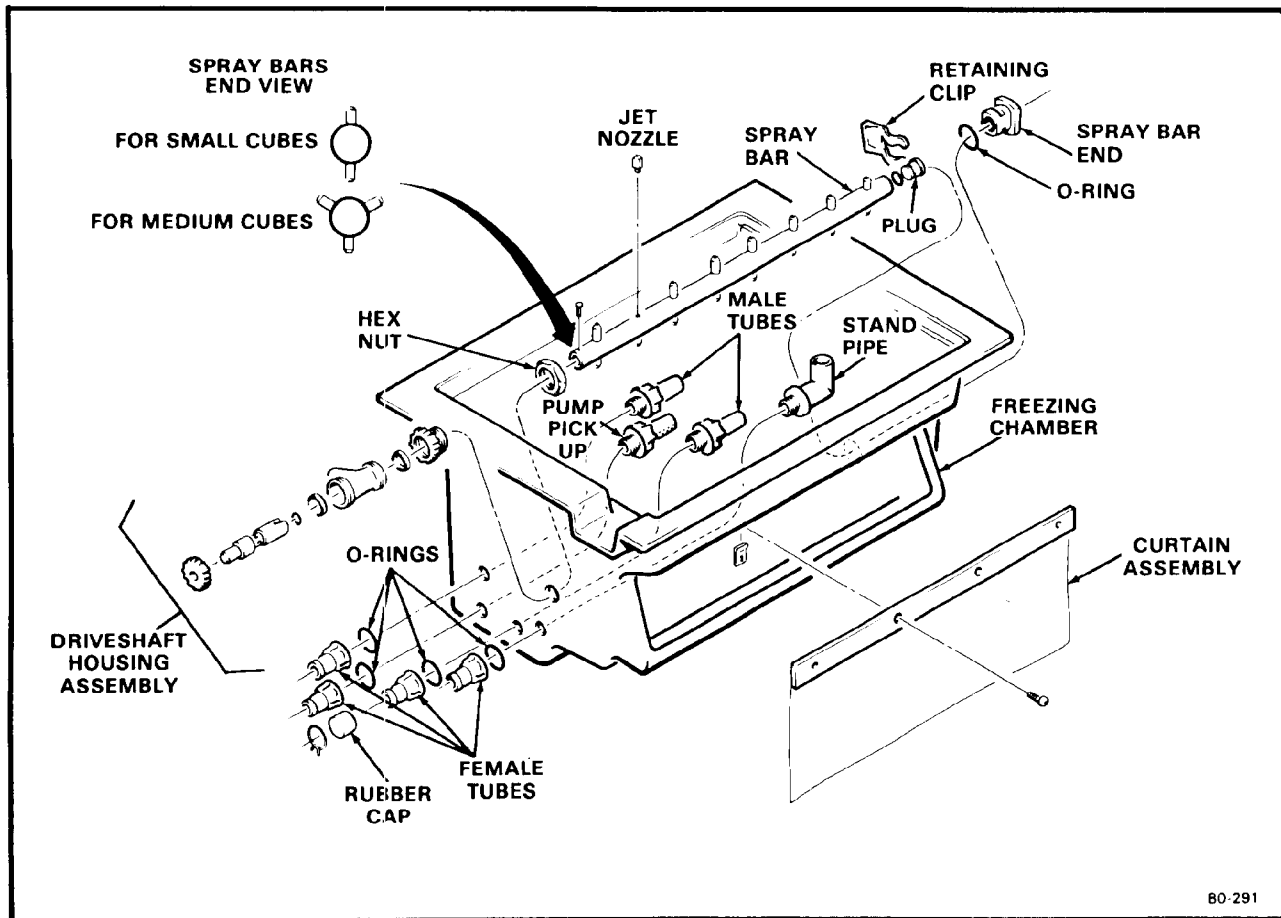

Figure 4-3. Freezing Chamber Disassembly.
A. To remove the Freezing Chamber, Platen, Spray Bar: (See Figure 4-3)
15. Remove the Retaining Clip, Spray Bar End, O-Ring, and the Spray Bar from the Freezing Chamber; then, remove the Spray Bar Plug from the end of the Spray Bar. See Figure 4-3.